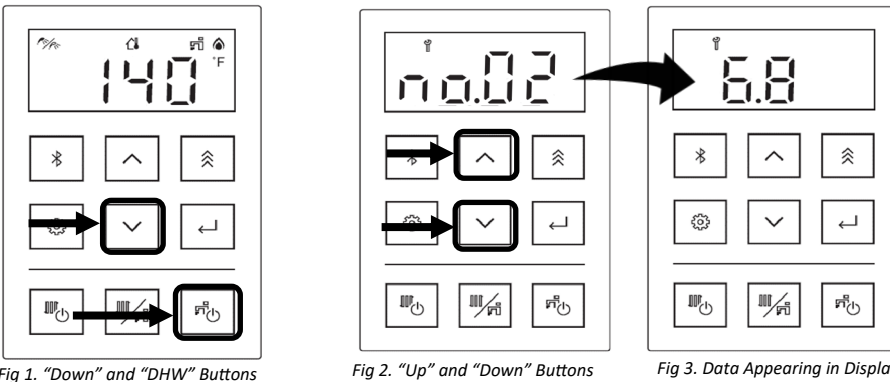

Fig 1. "Down" and "DHW" Buttons Fig 2. "Up" and "Down" Buttons Fig 3. Data Appearing in Display
- Press and hold the **▼ (Down)** button for two seconds (Fig 1).
- While holding the **▼ (Down)** button, press and hold the **“Domestic Hot Water” (DHW)** button (hold both buttons at the same time) (Fig 1).